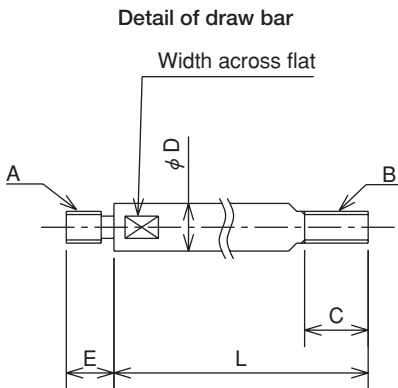

Fig. 10
The dimension L in Fig. 10 is determined from the distance M between the cylinder adapter and the spindle.
- Keep the dimension B (Max.) in Fig. 10 for the draw bar and a material with the tensile strength 380MPa (38kgf/mm²) or more must be used.